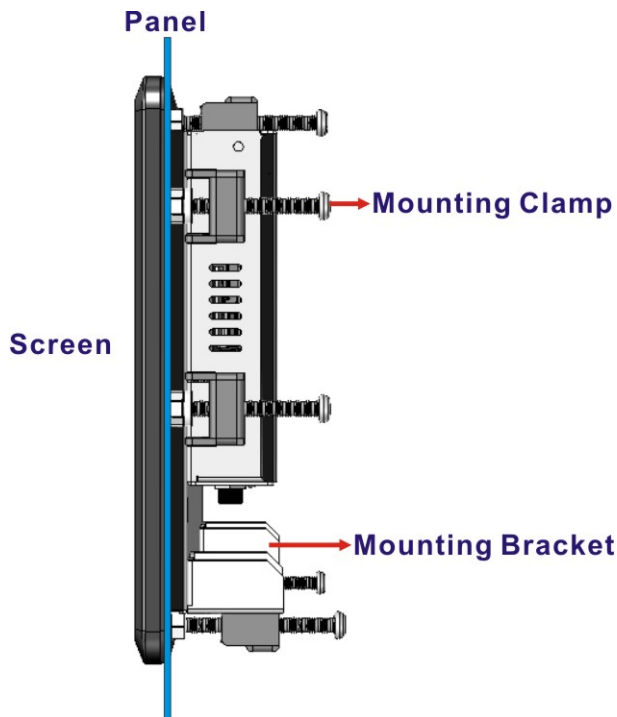

Figure 3-25: Tighten the Mounting Clamp Screws
Step 5: Insert the mounting clamps into the mounting brackets and pre-formed holes along the edges of the PPC-F08B/F10B-BT, behind the aluminum frame (Figure 3-25). There are a total of eight mounting clamps required.
Step 6: Tighten the screws that pass through the mounting clamps until the plastic caps at the front of all the screws are firmly secured to the panel (Figure 3-25).